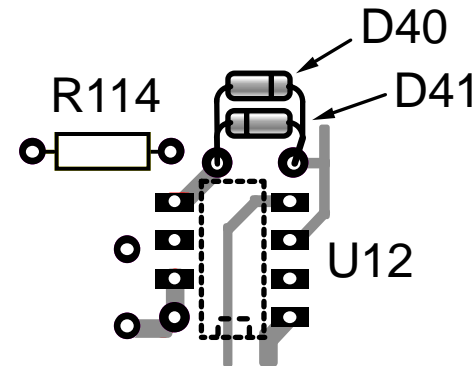

Figure 6-23
- On the bottom of the RF board, locate resistor R114, which is near the power switch. Near R114 you'll find the 8 pads for I.F. amp U12, which is on the top side of the board (Figure 6-23).